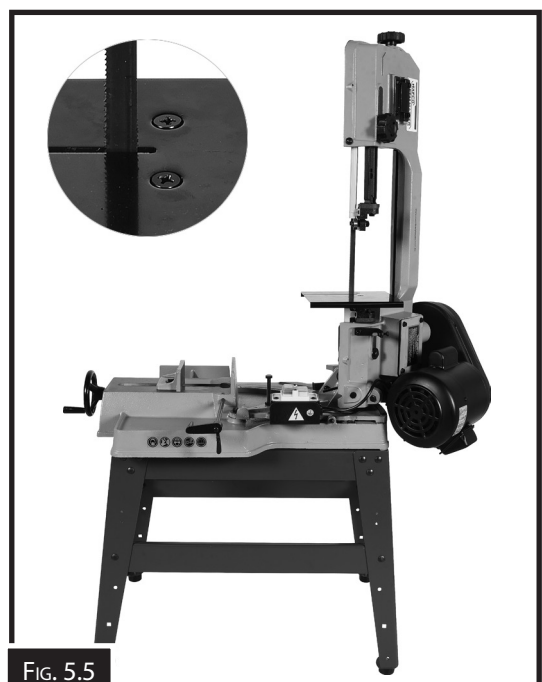

FIG. 5.5
2. Remove the two flat head screws and the blade guide cover shown in Fig. 5.5.